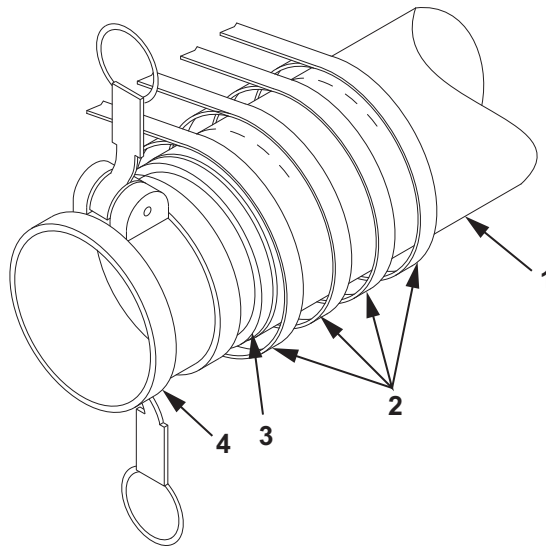

Figure 4. 4 In. X 10 Ft. Discharge Hose Repair.
10. Place four clamps (Figure 4, Item 2) loosely on the hose assembly (Figure 4, Item 1).
11. Install female coupling half or male coupling half (Figure 4, Item 4) into hose assembly (Figure 4, Item 1) until it is flush with the machined stop (Figure 4, Item 3).